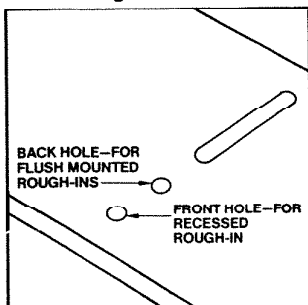

FIGURE 9
2. For rough-in frames which are recessed into the wall opening. Insert two shoulder screws (provided) into the front two holes in the rough-in frame. See Figure 9 & 10.
For rough-in frames which are mounted flush with the wall. Insert two shoulder screws (provided) into the back two holes in the rough-in frame. See Figure 9 & 10.